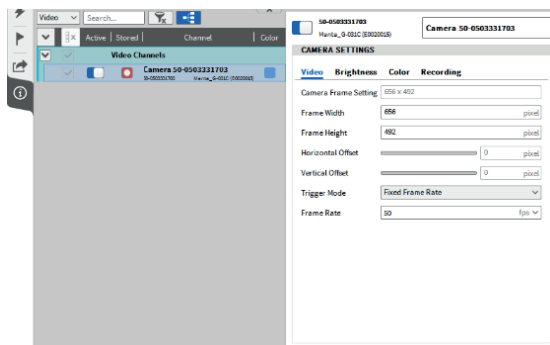

Fig. 11: Configuring the camera with a fixed frame rate
- ▶ It is also possible to select the desired *Fixed Frame Rate* (Fig. 11).